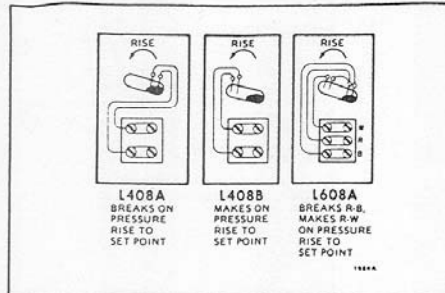

FIG. 3—L408A,B AND L608A TERMINAL BLOCKS AND INTERNAL SCHEMATICS.
5. All models have a terminal block inside the cover (Fig. 3) and a 7/8 inch [22.2 mm] hole in one side for 1/2 inch conduit, cable, or wires. Remove the front cover by loosening the screw at the bottom of the main scale.